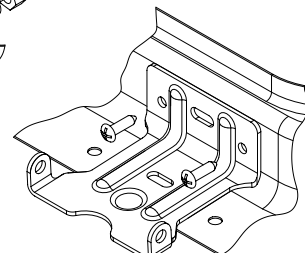

Figure 8
- i. Mark the two (2) outer holes of each bracket onto the side wall of your fan.
- iii. Fasten the brackets to the fan side wall using two (2) #6x1/2" long screws provided for each bracket. See Figure 8.